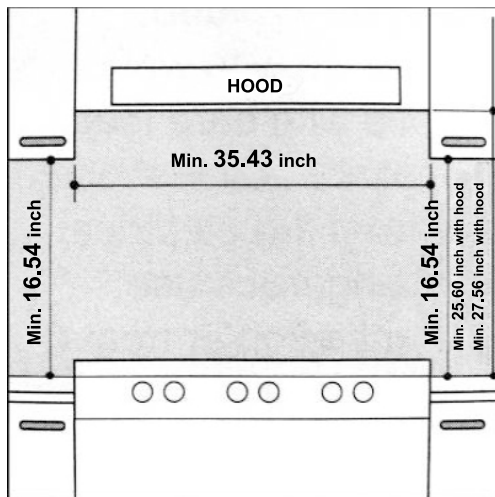

Fig.5
- c) The cabinets should be positioned near to the hood at a height of 16.54 in at least (Fig. 5).